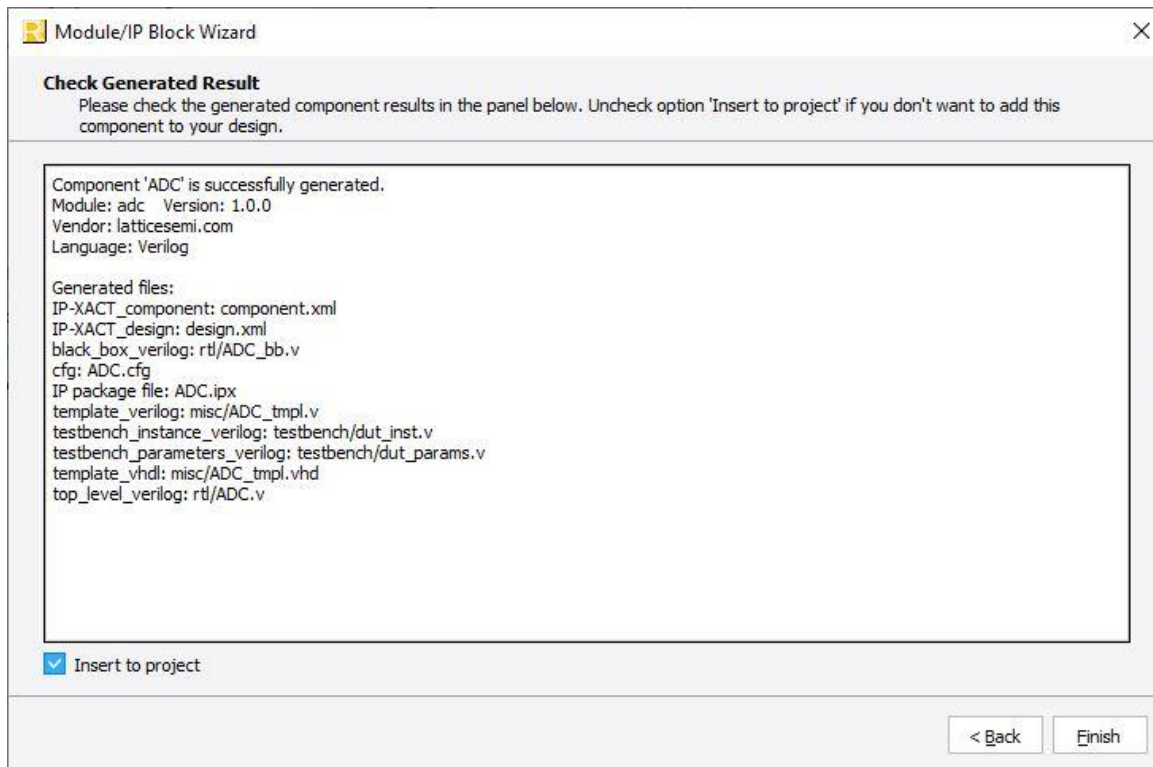

Figure 3.2. Check Generating Result
- Click **Generate**. The Check Generating Result dialog box opens, showing design block messages and results as shown in Figure 3.2.